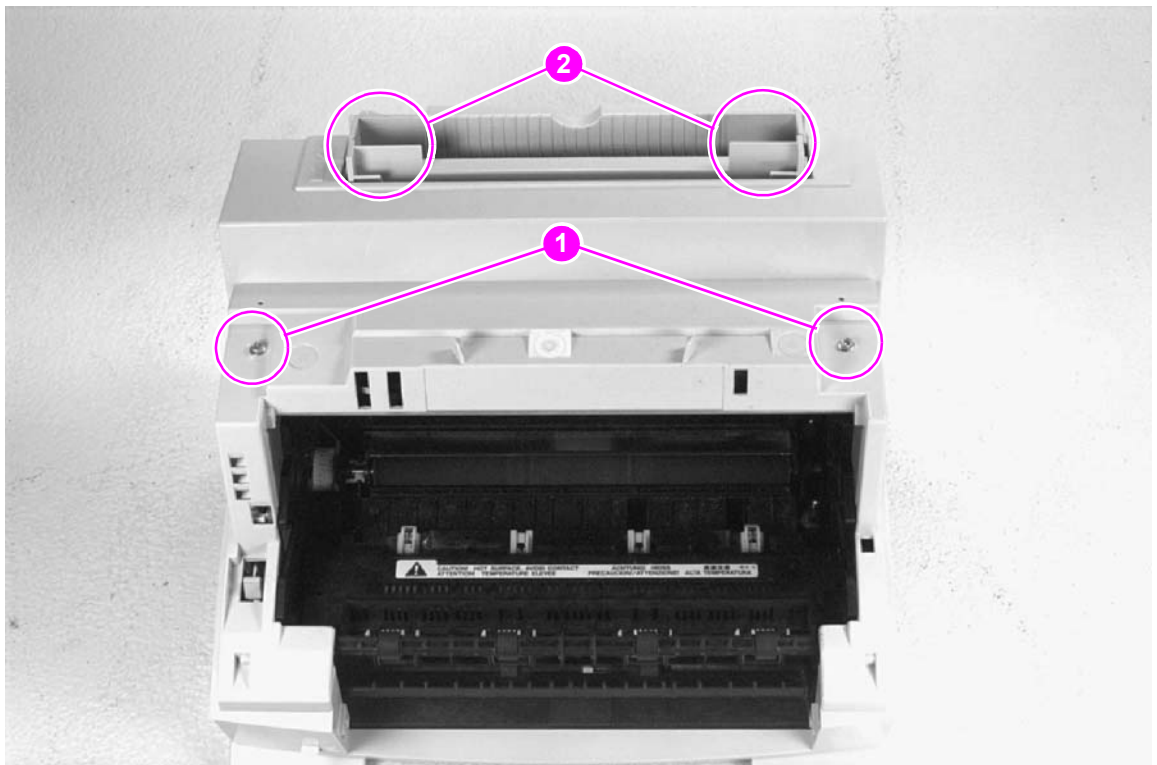

Figure 6-6 Main Cover and Paper Input Assembly removal
- 5 Remove the (2) screws from the top of the printer (Figure 6-6, callout 1).
- 8 Remove the Paper Input Assembly (Figure 6-6, callout 2) by rotating it forward and lifting it out with firm pressure.